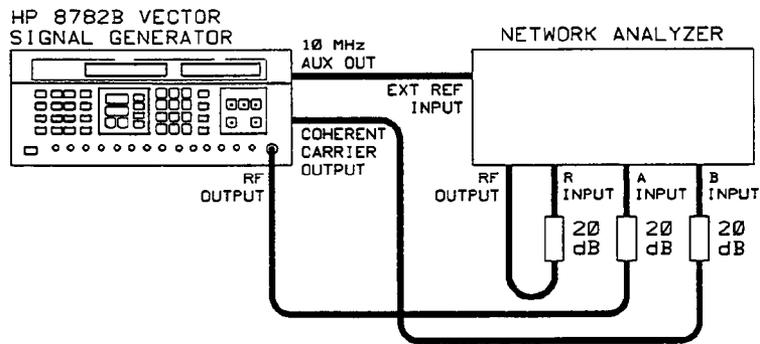

Figure 5-31. Digital Modulation DC Accuracy Test Setup
1. Connect the equipment as shown in Figure 5-31. The generator 10 MHz auxiliary output must be connected to the network analyzer to provide a common time base for the measurements. The connection from the network analyzer RF source to the R input is only required for the HP 8753 A/B. This is required to phase lock the internal frequency sources.